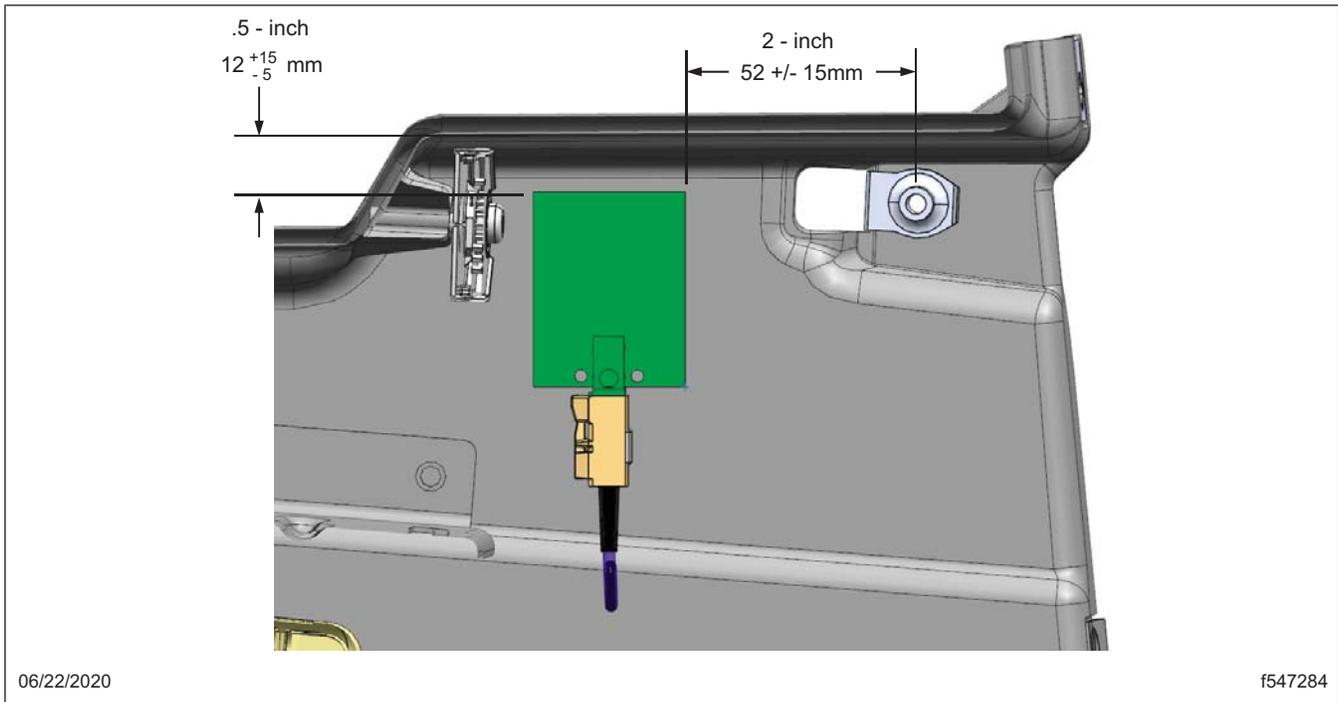

Fig. 5, WiFi Antenna Installation
- 17.2 Position the WiFi antenna to the right-hand inside of electronics bay, .5-inch (12-mm) from the top of the bay, and 2 inches (52-mm) to the left of the mounting nut. Use the adhesive backing on the antenna to secure it to the wall of the electronics bay. See Fig. 5.